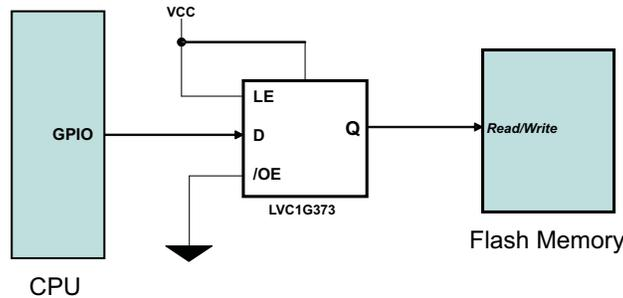

Figure 29. Typical Design Example With D-Latch
TI offers several selections of latch/flip-flop gate functions and the SN74LVC1G373 is useful in memory applications to manage read/write with latched output. The latched output is showing " high" or "low" when the latch-enable (LE) control pin is enabled, and it decreases memory corruption by malfunction of floating or unstable switching levels caused by battery drop (see Figure 29).